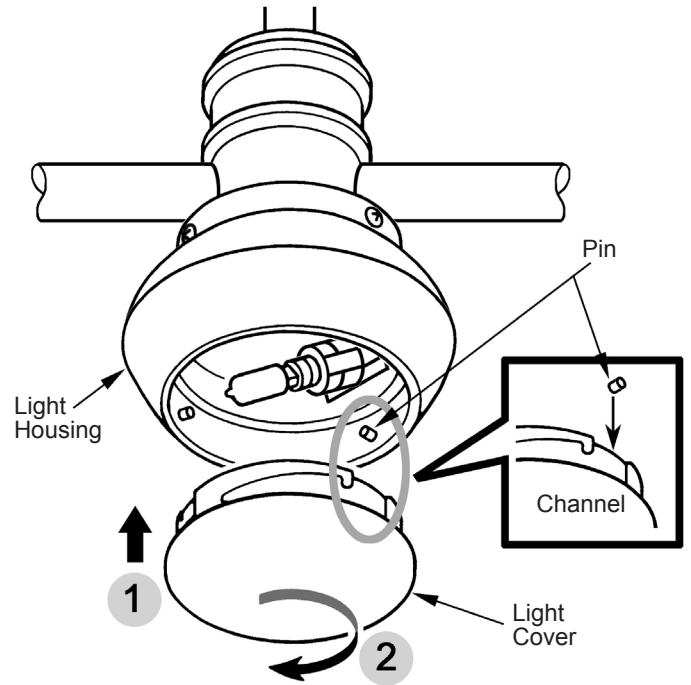

Figure 6.4
Step 4. Align the channels on the Light Cover to align with the Pins inside the Light Housing and slide the cover in. Carefully twist the Light Cover clockwise to secure it in place. The Light Cover should fit snug against the Light Housing. (Fig. 6.4)